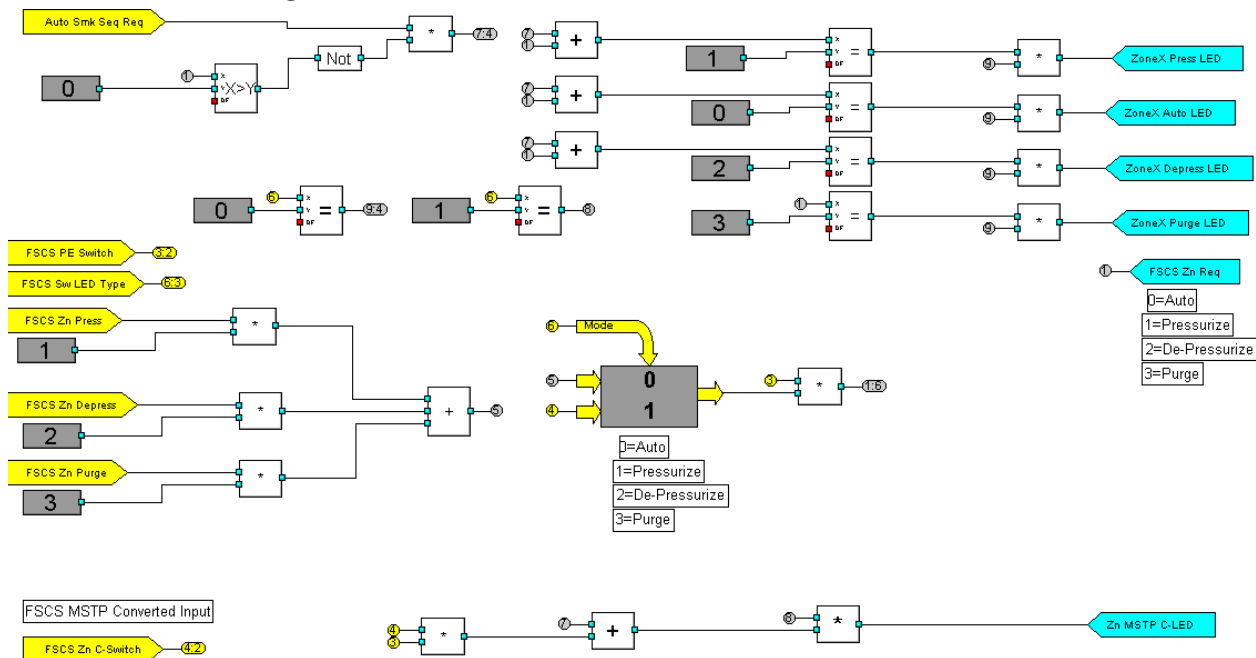

Figure 15: Zone Control Block Logic
- The Zone Control system block logic controls the FSCS Zone LEDs for the zone, depending on the Firefighter Control Key setting (Figure 15).